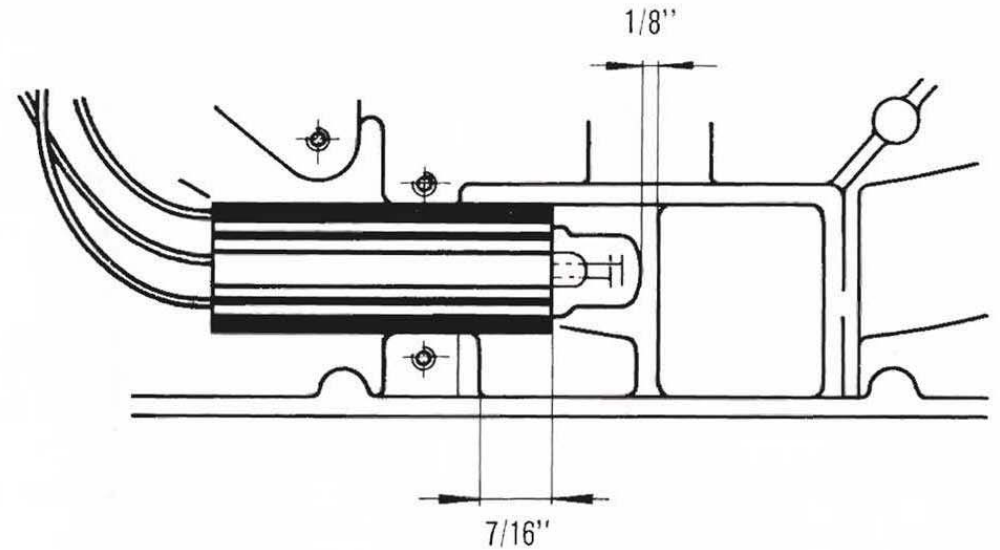

Fig. 10 : Neon bulb.
6. See Fig. 10 for the exact location of the bulb assembly.